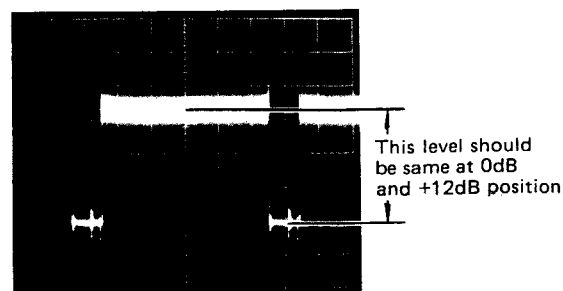

Fig. 5-6-6
- o Repeat this procedure until the pedestal level stays same at the 0 dB and +12 dB position. (Fig. 5-6-6)